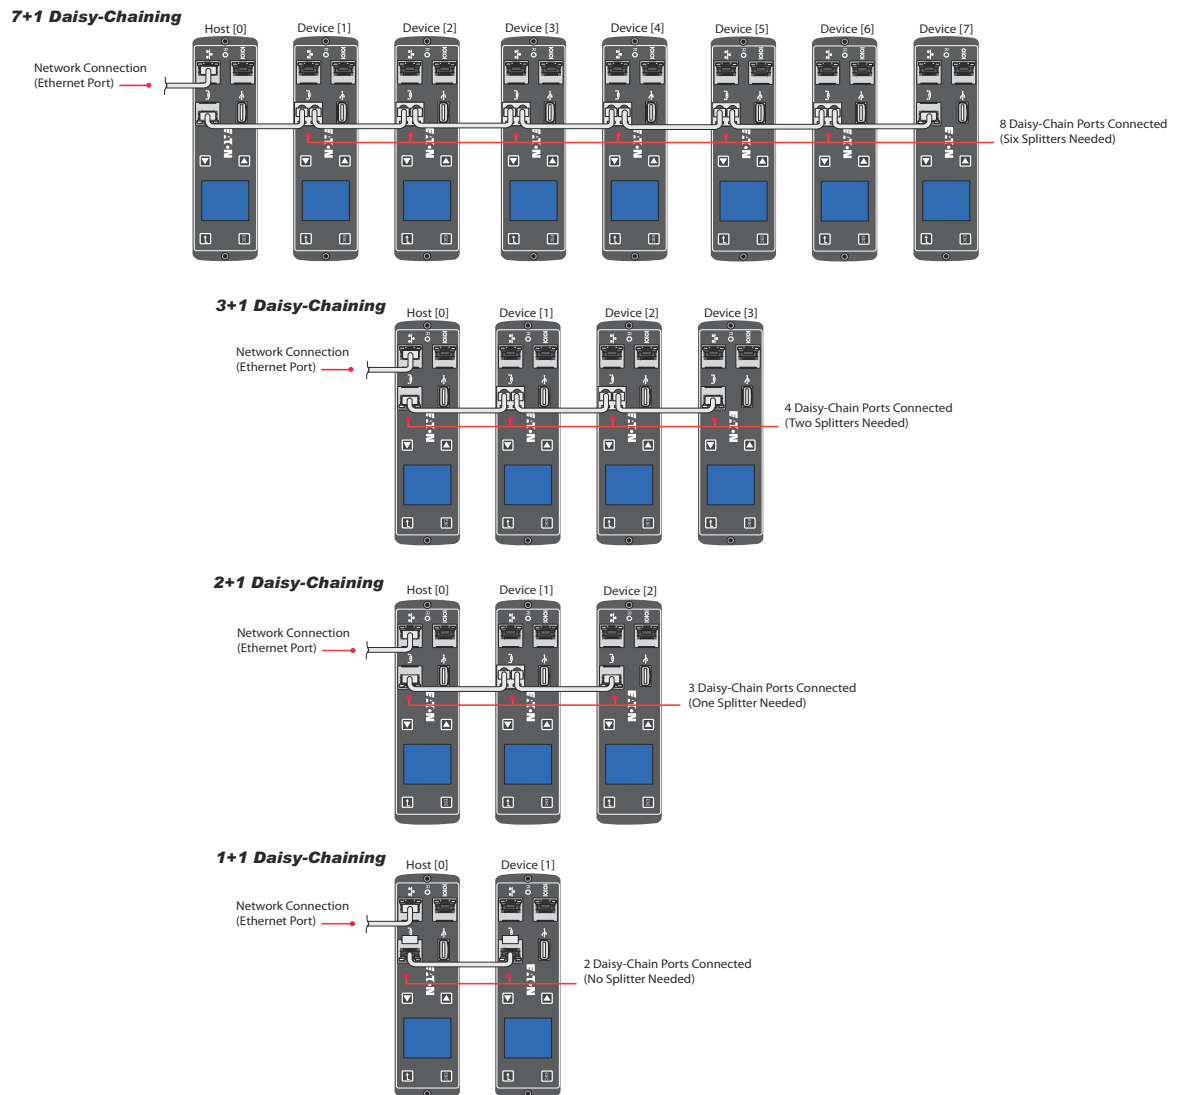
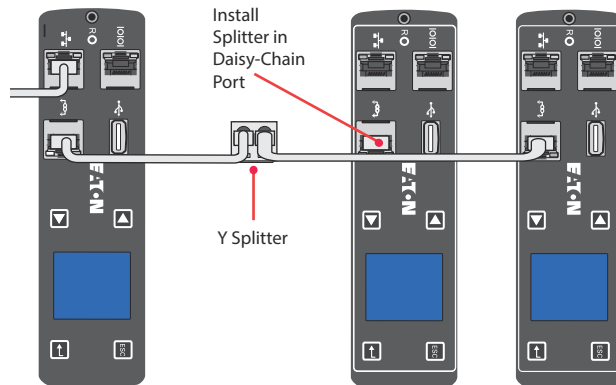

Figure 30. Locating the Daisy Chain Connector
Figure 31. Y Splitter in Daisy-Chain Port (2+1 Daisy-chaining Shown)
3. Connect one end of the cable to the Daisy Chain connector on one ePDU. Connect the other end of the cable to the Daisy Chain connector on the other ePDU as shown in Figure 30.
5. Insert a Y splitter in the Daisy Chain connector for all ePDUs between the Host and the last ePDU in the chain, as shown in Figure 30 and Figure 31.